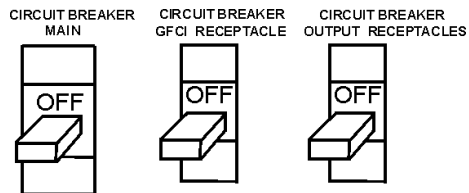

Figure 31. Main, GFCI and Load circuit breakers
1. Switch both the MAIN, GFCI and LOAD circuit breakers (Figure 31) to the "OFF" position.